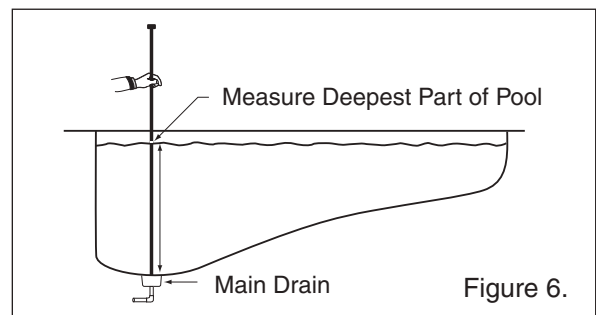

Figure 6.
1. Measure the deepest part of the pool. **See figure 6.**